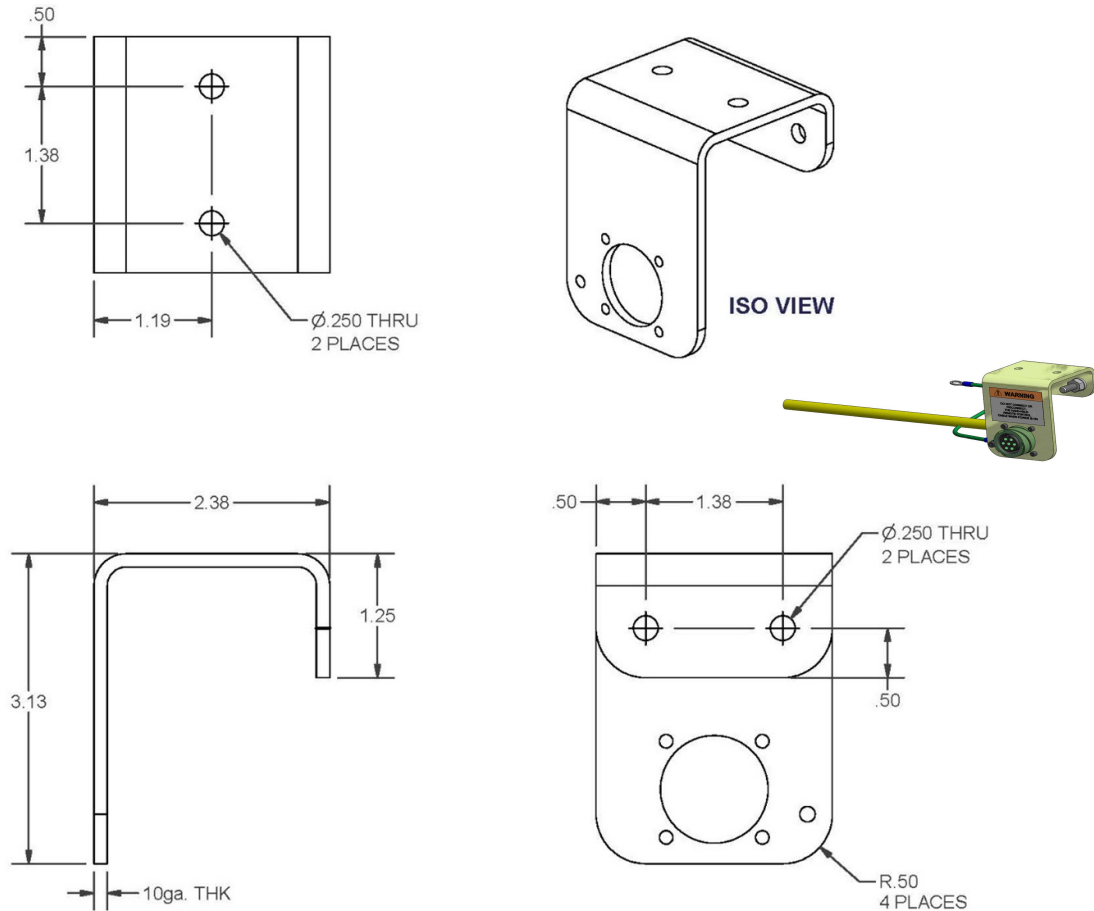

Figure 5-4 HHRC Bulkhead Bracket Installation Dimensions
1. Drill clearance holes for 1/4-20 screws located per Figure 5-4. Either two hole pattern can be selected according to the space available.